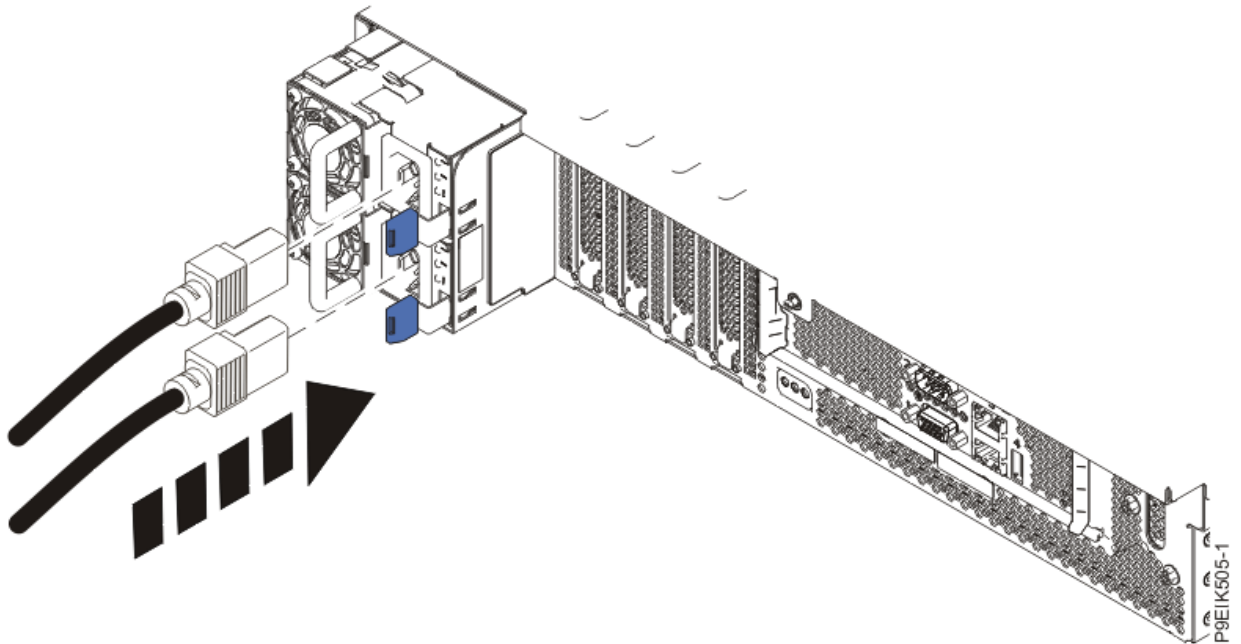

Figure 189. Connecting the power cords to the system
2. Using your labels, reconnect the power cords to the system unit as shown in Figure 189 on page 217.